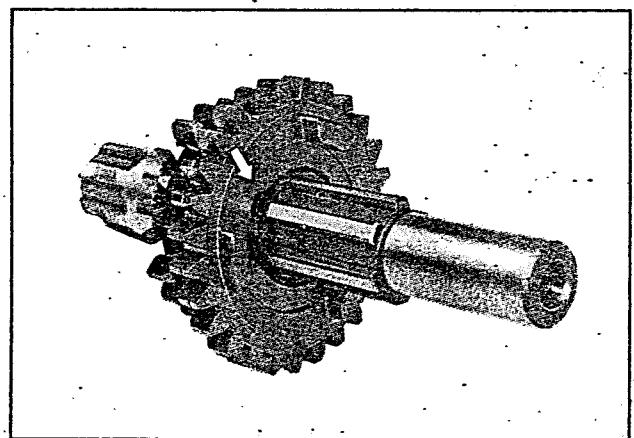

Fig 3.48
- Remove the circlip and then take off the second driven gear (fig 3.48)